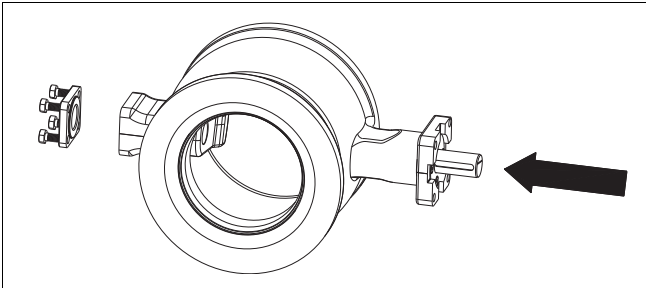

Fig. 21 Removing the blind flange
- In DN 65-100 valves (excluding the low-Cv versions), unfasten the blind flange (10) and push the segment into the back position, Fig. 21.